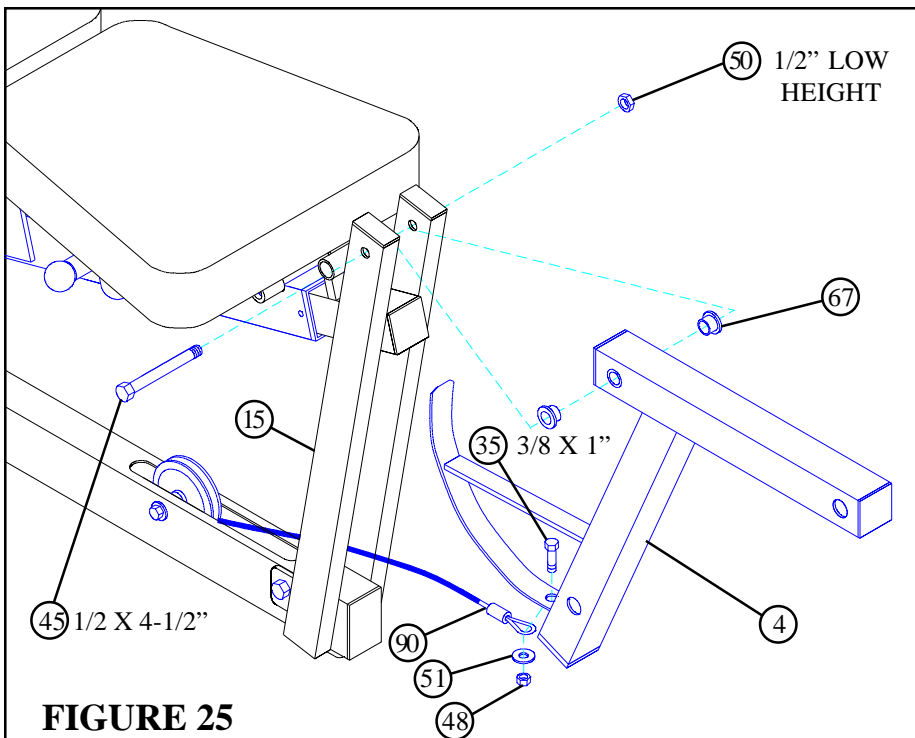

FIGURE 25
- Insert two 1/2" FLANGE BEARINGS (67) into the LEG CURL/EXTENSION (4).
- Assemble the LEG CURL/EXTENSION (4) to the BENCH FRAME (15) using one 1/2 X 4-1/2" (45) and one 1/2" **LOW HEIGHT** LOCKNUT (50). (**NOTE:** Securely tighten, then back nut off 1/4 turn to allow the LEG CURL/EXTENSION (4) to rotate freely.)
- Securely fasten 227" CABLE (90) to the LEG CURL/EXTENSION (4) using one 3/8 X 1" BOLT (35), one 3/8" WASHER (51), and one 3/8" LOCKNUT (48) as shown in FIGURE 25.